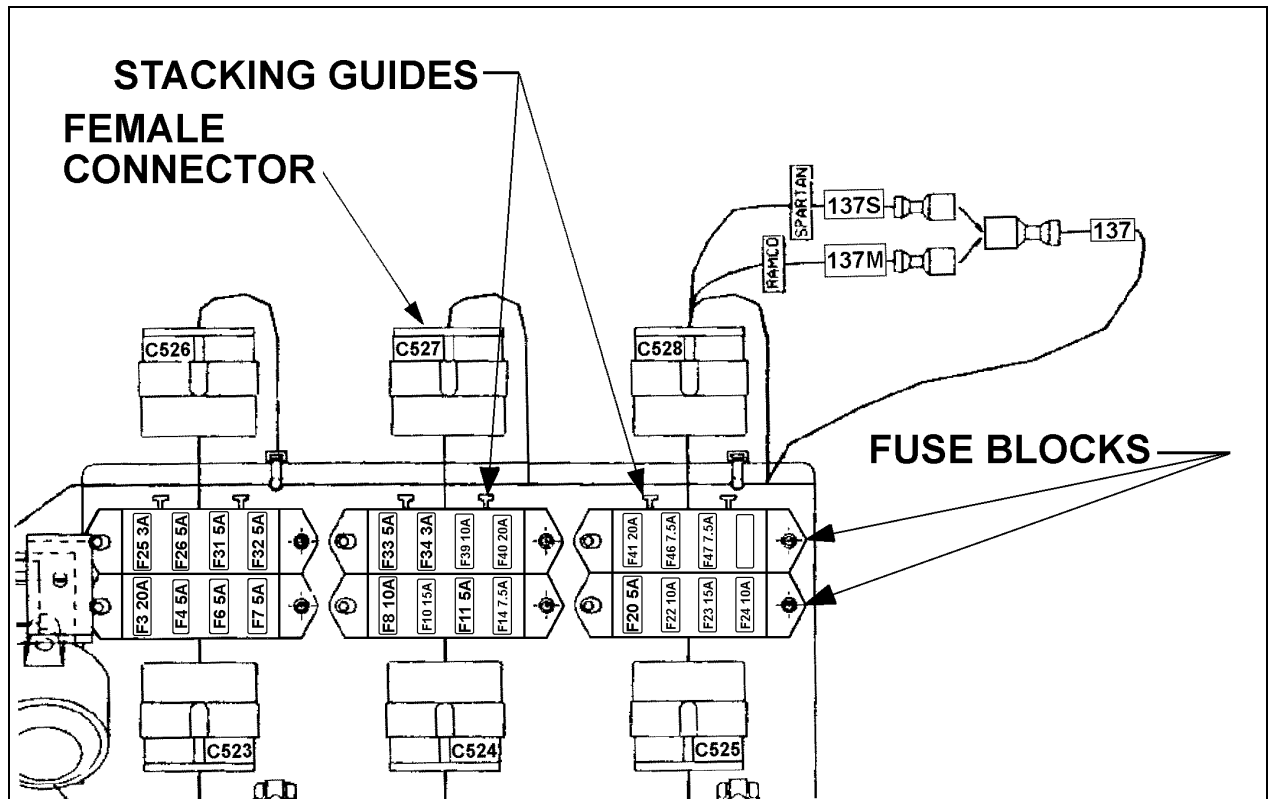

FIGURE 1: FRONT SERVICE COMPARTMENT (H3-41 ET H3-45)
1. Check fuse blocks positioning (Prévost # 562621) in front service compartment (6 blocks) and in rear electric compartment (5 blocks) (refer to fig. 1 and 3).
2. Ensure that "T" shaped stacking guides are pointing upwards (refer to fig. 1 and 3).